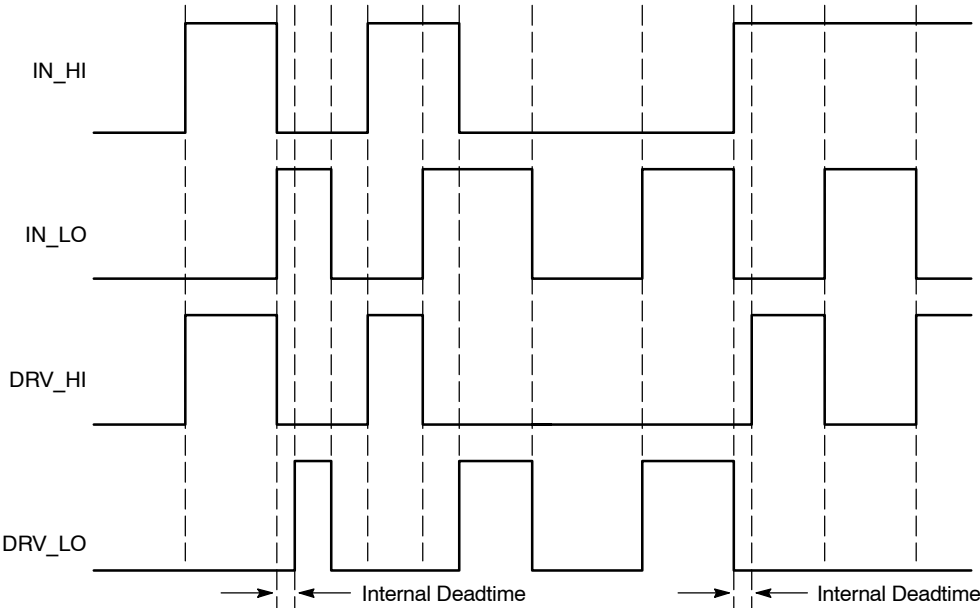

Figure 7. Input/Output Cross Conduction Output Protection Timing Diagram
5. Timing diagram definition see Figure 7.